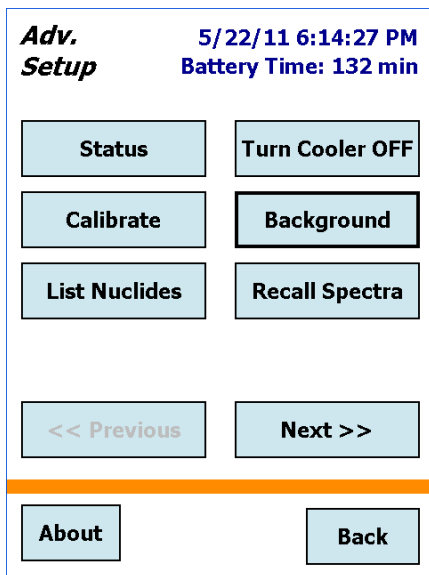
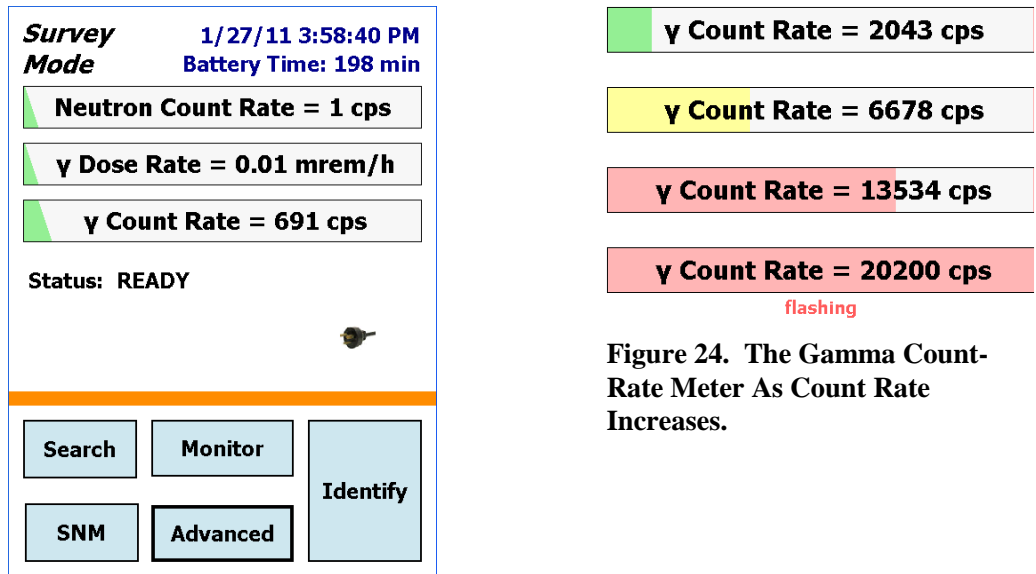

Figure 17. On the Advanced Menu, Tap the Calibrate Button.
Figure 23. The Survey Mode Screen.
- **Instrument Status Area** — The center of the Survey Mode screen provides brief indicators of the unit’s readiness for data acquisition. The Status is either **READY** (Fig. 23) or **Detector is warm**. In addition, warnings such as the high gamma dose rate message are posted in this part of the screen.
- To return to the preceding dialog, tap **Back**. For example, tapping **Back** from the Advanced Setup dialog (Fig. 17 on page 24) returns you to the Survey Mode screen (Fig. 23).
- On the Survey Mode screen, tap on **Advanced** (see Fig. 17), then **Calibrate**.
In Survey Mode (Fig. 23), the Detective-EX behaves as a passive monitor, showing the current gamma count and dose rate; neutron count rate (for units so equipped); instrument status; detector dead time, available disk storage space and battery charge; time and date; and GPS coordinates.
- To end this search and return to the Survey Mode (Fig. 23), tap **Back**. The current search data will be retained until the next identification or search. (You can display the most recently acquired search or identification spectrum from the Survey Mode screen.)